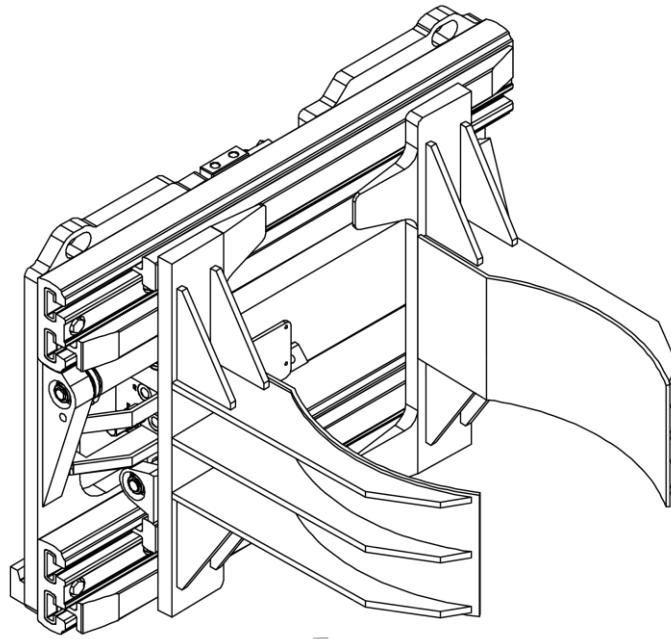
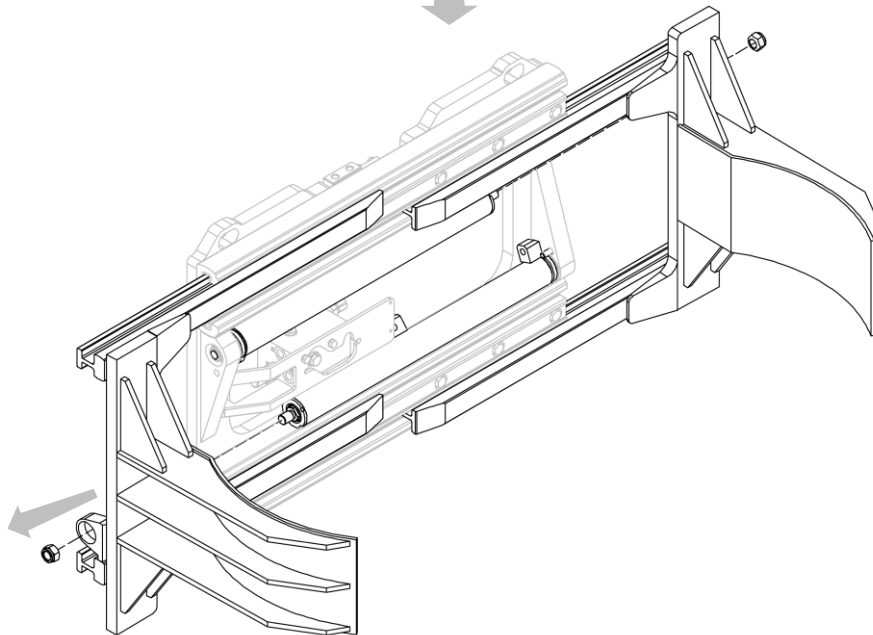

Figure 34
Figure 35
2. Remove the fork assembly with the jaws after unscrewing the nuts securing them to the cylinders (see *Figure 34* and *Figure 35*).